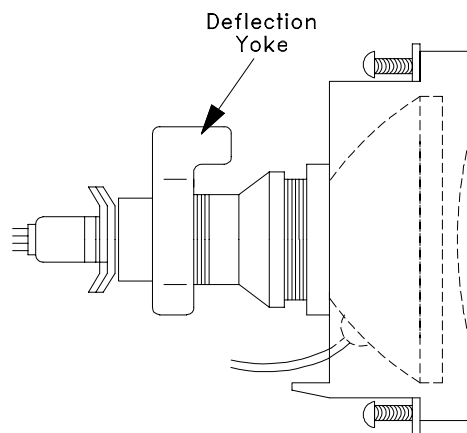

Figure 5-6
2. Install the Deflection Yoke on the CRT neck. [Figure 5-6]